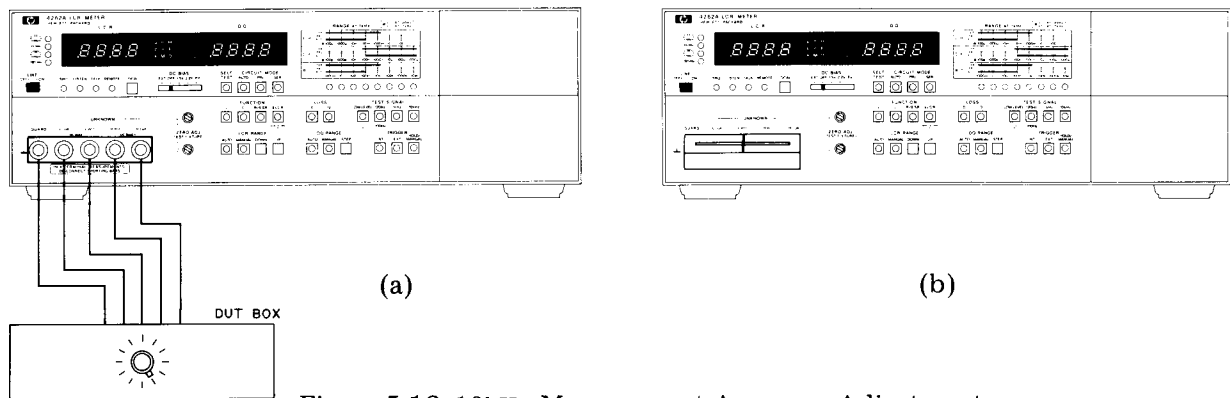

Figure 5-12. 10kHz Measurement Accuracy Adjustment.
(1) A13C1 Adjustment.
a. Connect Test Leads (HP P/N 16361-61605) between 4262A UNKNOWN terminals and 16362A DUT Box as shown in Figure 5-12 (a). If DUT Box is not available, attach 16061A Test Fixture to 4262A UNKNOWN terminals [see Figure 5-12 (b)].